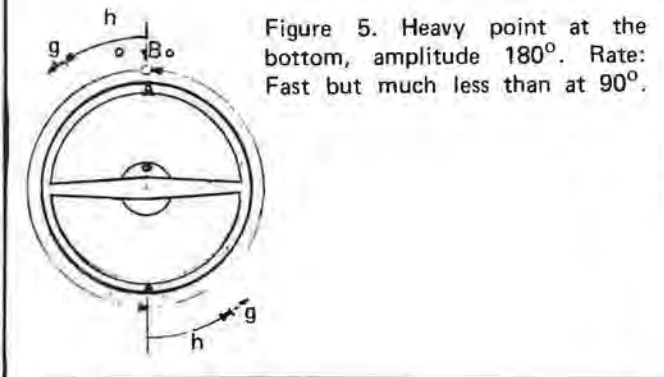

Figure 5. Heavy point at the bottom, amplitude 180° . Rate: Fast but much less than at 90° .
3. Why are the effects reversed when the watch is fully wound? The answer to the first question is somewhat difficult to explain from Figure 5. The argument should be that if the heavy point at the bottom with the amplitude of 90° produced substantial gain, then when the amplitude is increased to 180° the gain should be even greater because the force of gravity is acting in the same direction as the force of the hairspring over twice the distance. This obviously is not the case and the real reason for the reduced gain is to be found elsewhere. It has been pointed out earlier (February 1979 issue) that the force of the hairspring is proportional to the angle of deflection. When the amplitude is doubled, the force of the hairspring is also doubled, but the force of gravity remains the same. It can be shown mathematically that when two forces act on a body, whichever force is increased will have greater influence on its motion (vector theory).